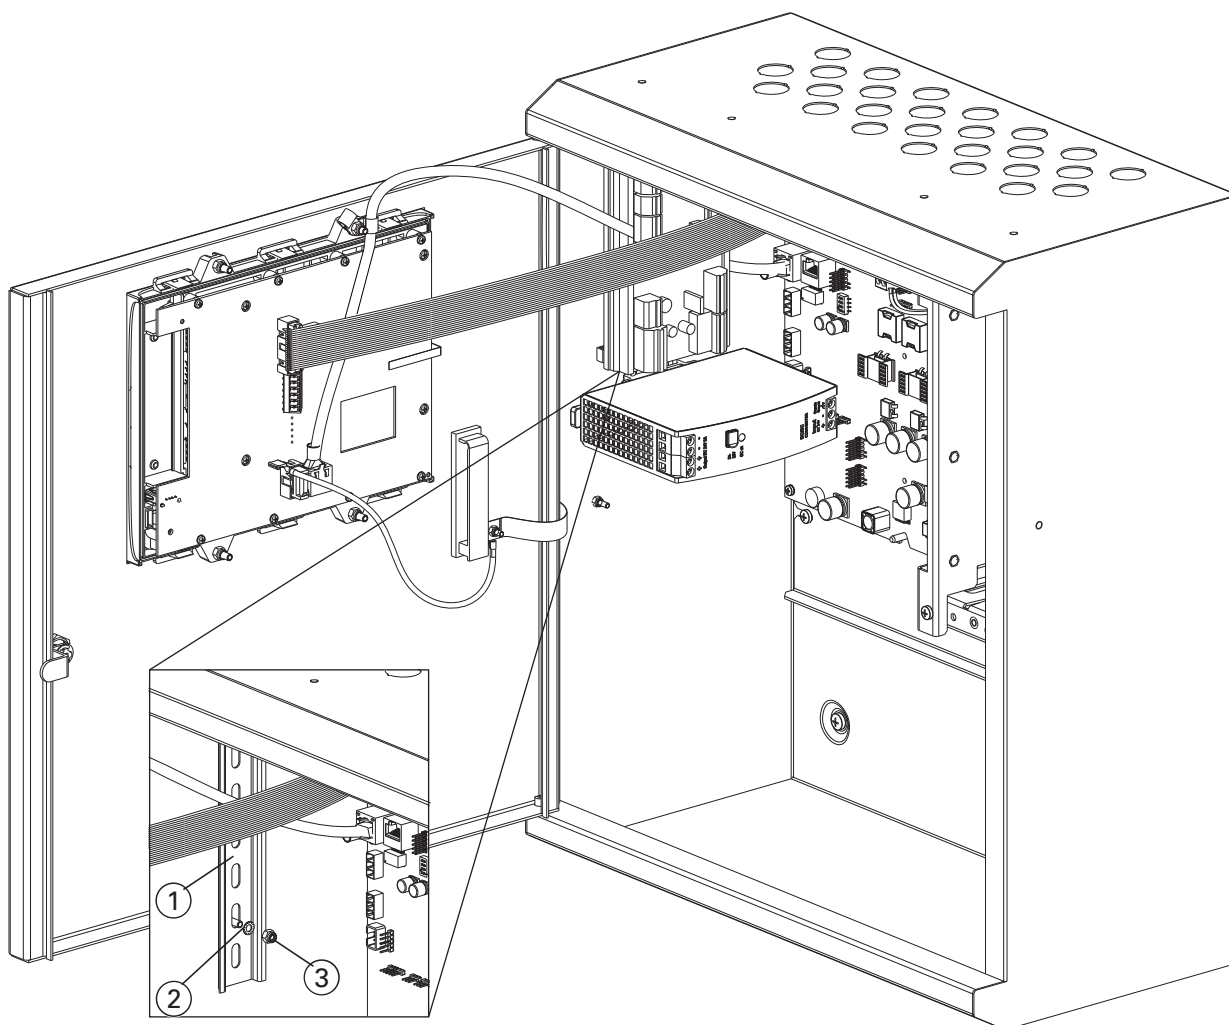

Fig. 33: DIN rail devices on a FC702D, FC718 or a FC708 panel
You need to fit the DIN rail to the left side of the panel housing, at the top, as shown in Fig. 33. You need to
To mount the DIN rail in a FC702D/718/708 panel, refer to Fig. 33 and complete these steps:
- 1 Place the DIN Rail (item 1 in Fig. 33) vertically on the top left corner of the panel, fitting the holes through the screws in the side of the box.
- 2 Fit a washer (item 2 in Fig. 33) through the screw and fasten with a nut (item 3 in Fig. 33).